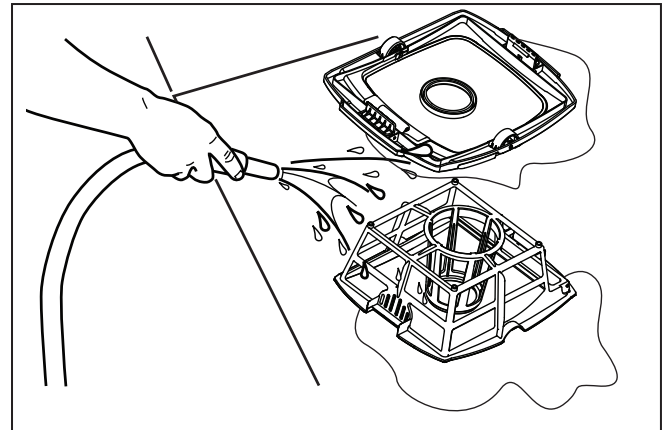

Figure 19. Rinse the Filter Canister
5. Using a hose with clean water, rinse the filter canister and lid to remove all debris (Figure 19).